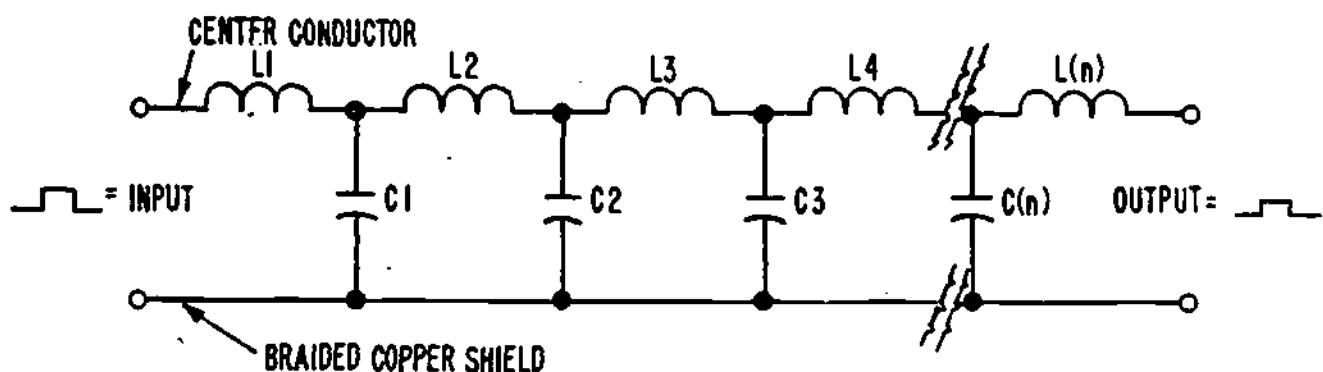

Figure 9
11. You have learned that the leading edge of a signal pulse which is injected into a coaxial cable receives a time delay. Figure 9 again shows the equivalent LC circuits in coaxial cable.